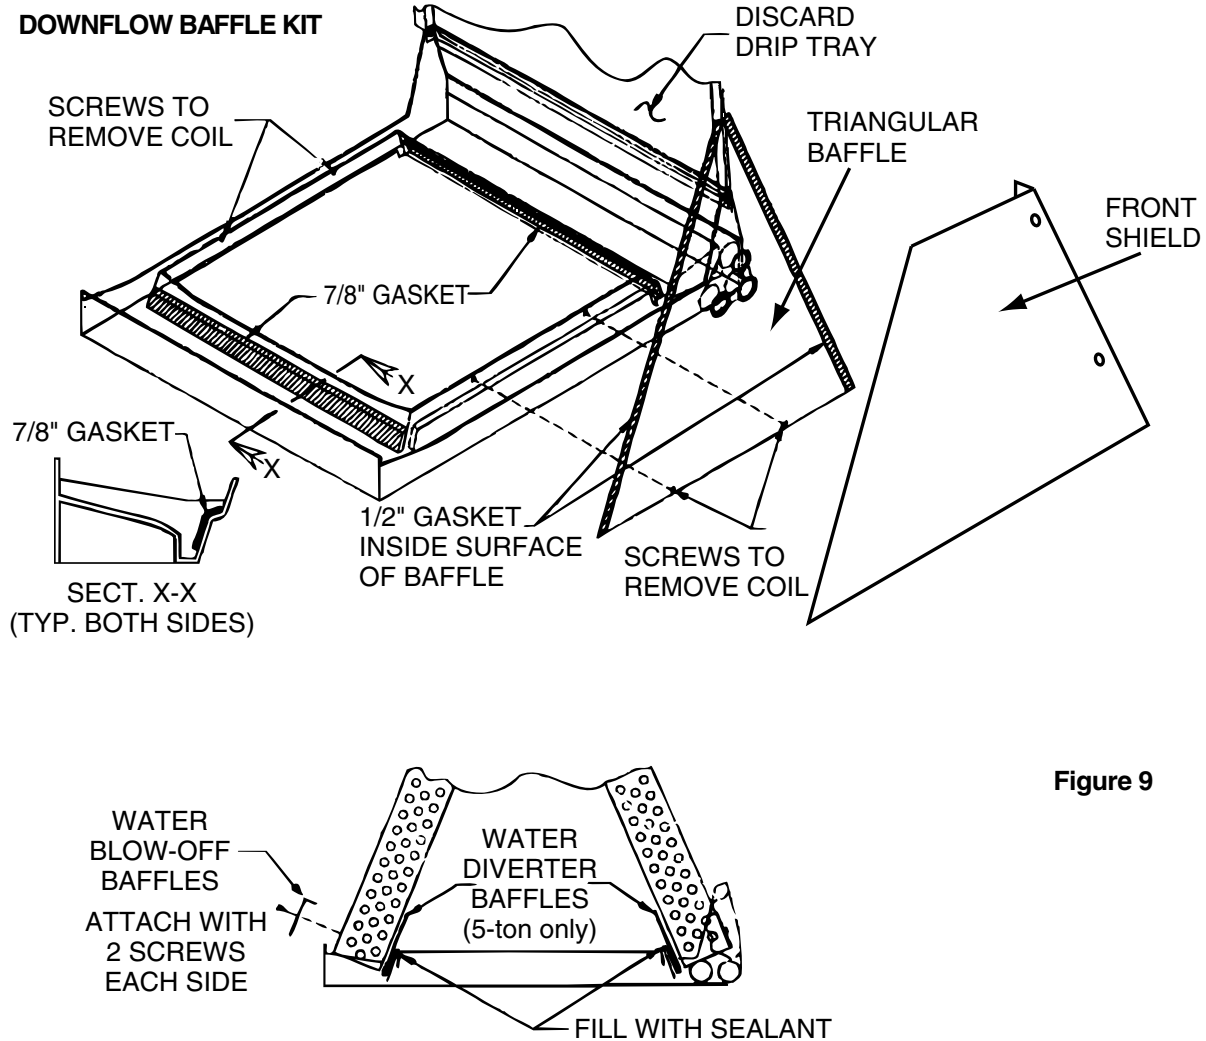

Figure 9
- Install the 7/8" wide gasket in each side of the drain pan as shown in Figure 9 (sect. X-X).
- The 5 ton model (2/4TEE3D65) requires 2 water diverter baffles to be placed underneath the coil on the inside edge of the drain pan. See Figure 9. Fill the bend in the baffle which fits the inner edge of the drain pan with non-acetic acid RTV type adhesive/sealant before installing the baffle.
- For maximum efficiency**, remove the factory installed baffle assembly from the apex of the coil by using a nutdriver to remove the 5/16" hex head screw. For the TEE3F40-65 units, there is a coil support tab at the top of the coil connected to the case must be removed first. Replace this baffle with the factory supplied narrow coil baffle using the screws removed previously. See Figure 9.